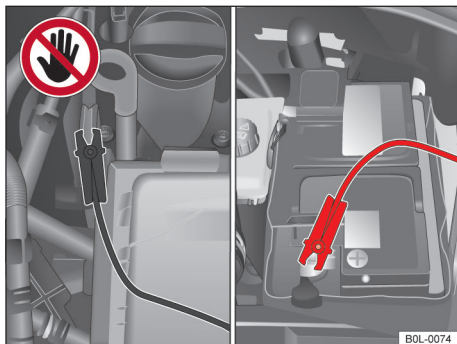

Fig. 144 Engine compartment: port for charging device or auxiliary starting cable
- Lift the cover plate on the positive terminal.→ Fig. 144